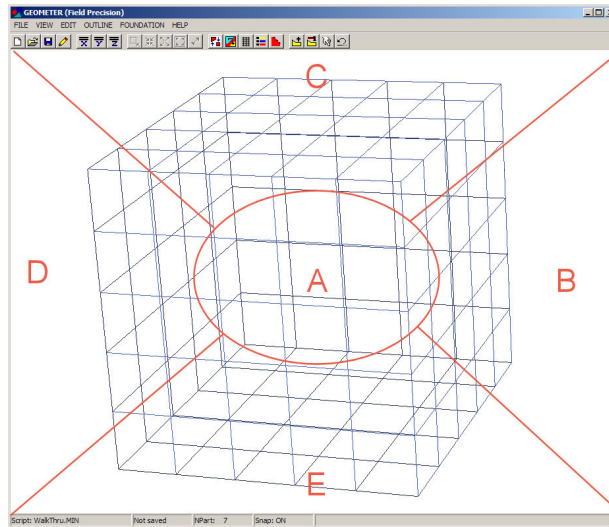

Figure 53: Active areas for mouse control of the 3D view.
The method to control the three-dimensional display with the mouse is identical to that used in **MetaMesh**. Figure 53 shows the active areas of the screen. The central zone (A) is used for zooming in (left button) and out (right button). Hold down the left mouse button in zones B, C, D and E to walk around the object. Hold down the right mouse button in zones B, C, D and E to move the viewpoint to the right, upward, to the left and downward. Note that changes are reflected in the orientation box in the upper-right portion of the screen. The plot is updated when you release the mouse button. You can control additional aspects of the three-dimensional view with the commands of the *Adjust view* popup menu.